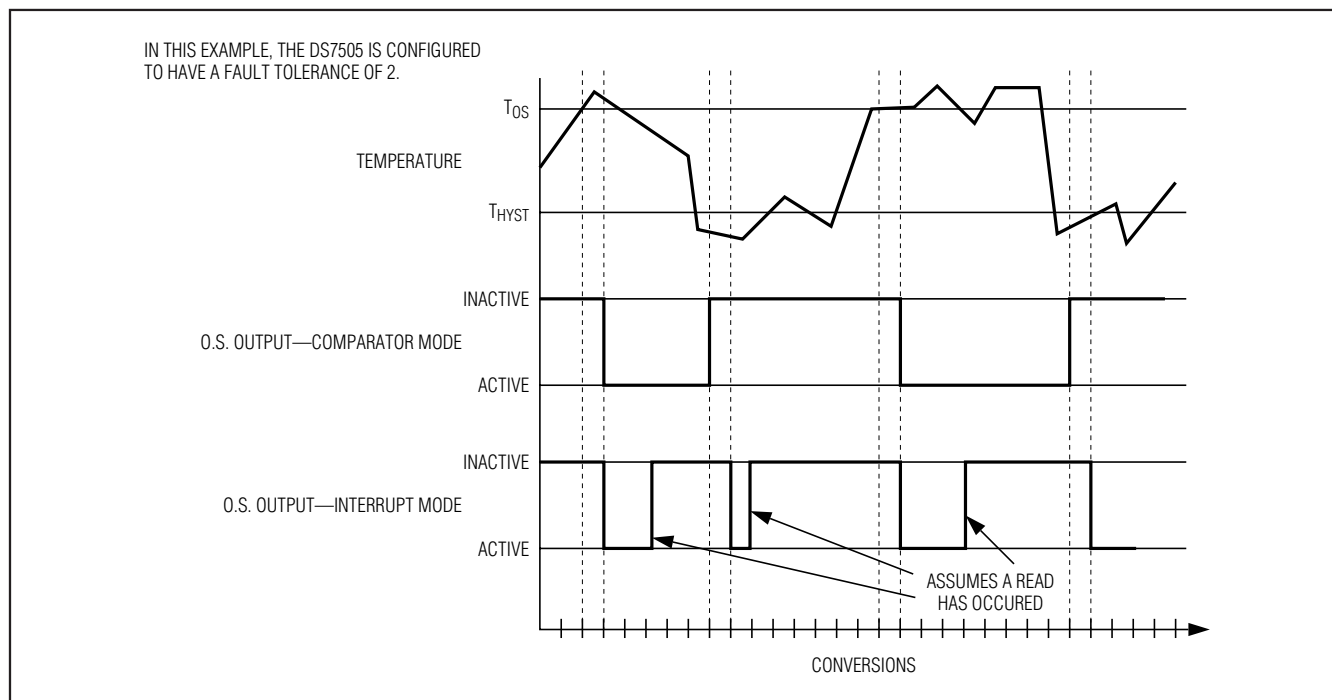

Figure 4. O.S. Output Operation Example
When the thermostat is in comparator mode, O.S. can be programmed to operate with any amount of hysteresis. The O.S. output becomes active when the measured temperature exceeds the T_{OS} value a consecutive number of times as defined by the F1 and F0 fault tolerance (FT) bits in the configuration register. O.S. then stays active until the first time the temperature falls below the value stored in T_{HYST}. Putting the device into shutdown mode does not clear O.S. in comparator mode. Thermostat comparator mode operation with FT = 2 is illustrated in Figure 4.
when the measured temperature falls below the T_{HYST} value a consecutive number of times equal to the FT value. Again, O.S. can only be cleared by putting the device into shutdown mode or reading any register. Thus, this interrupt/clear process is cyclical between T_{OST} and T_{HYST} events (i.e., T_{OST} , clear, T_{HYST} , clear, T_{OST} , clear, T_{HYST} , clear, etc.). Thermostat interrupt mode operation with $FT = 2$ is illustrated in Figure 4.